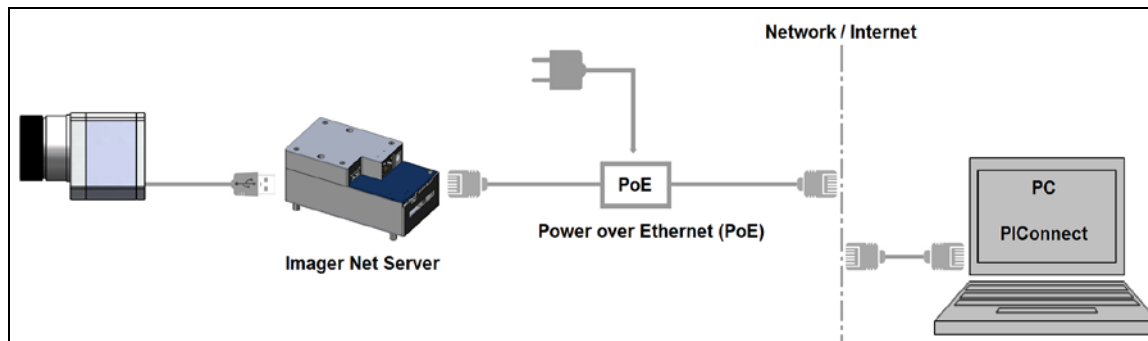

Figure 39: Ethernet network connection/ NetBox LW powered via PoE injector
4. Using a PoE injector the power supply for the NetBox is not needed. In this case the PoE injector must be connected as shown in **Figure 39**. With orderly function L1, L2 and L5 are illuminating.